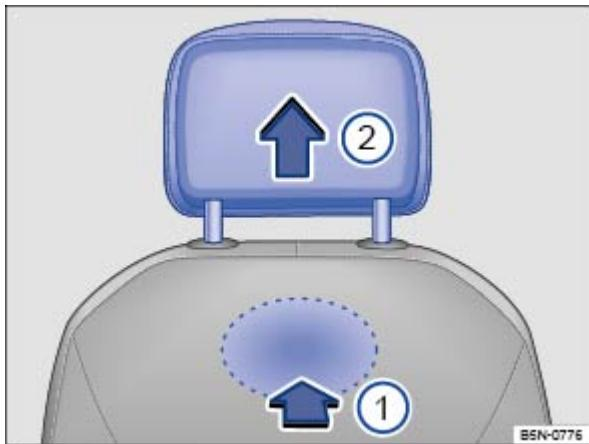

Fig. 82 Removing the front head restraints.
- On the back of the backrest, locate the release button under the seat cover and keep it pressed down ⇒ Fig. 82 ①.
- While pressing button ①, pull the head restraint out completely.